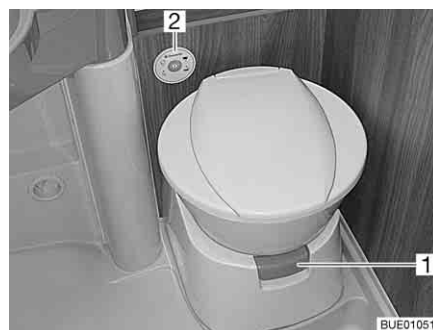
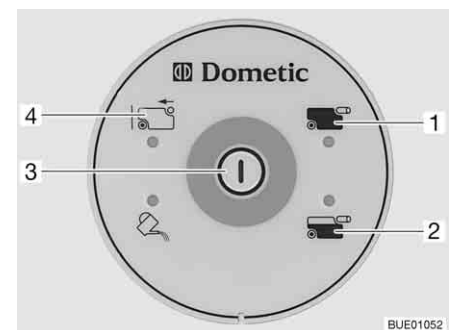

Fig. 246 Toilet bowl with control and operating unit
Fig. 247 Control and operating unit toilet
Let some water run into the toilet bowl before using the toilet. In order to do so press the flush button (Fig. 247,3) on the control and operating unit (Fig. 246,2).
- Before flushing open the sliding trap of the toilet. For this pull out the slide lever (Fig. 246,1).
- For flushing, press the flush button (Fig. 247,3).
The indicator lamp (Fig. 247,2) goes on whenever the sewage tank is filled up to 3/4.
The indicator lamp (Fig. 247,1) goes on whenever the sewage tank has to be emptied.
- Push the slide lever (Fig. 246,1) in. The sliding trap is closed. To empty, the sliding trap of the toilet **must** be closed.
- Tilt the sewage tank slightly and remove fully. The display "Sewage tank removed" (Fig. 247,4) lights up on the control and operating unit.